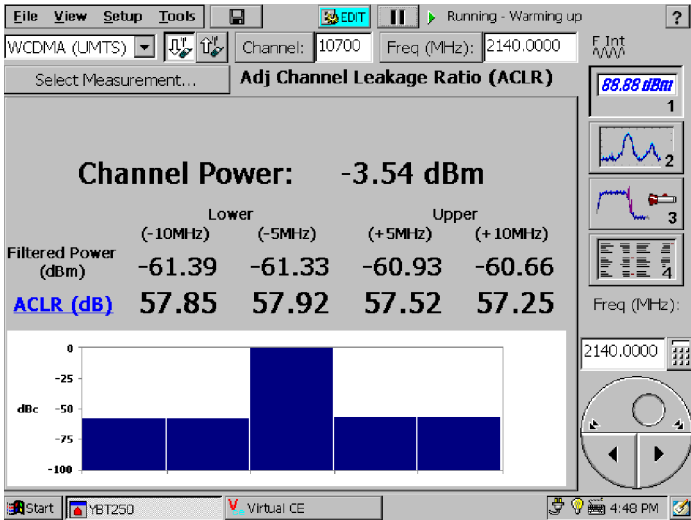

Figure 3-63: A typical ACLR display
5. Tap **ACLR**. See Figure 3-63.